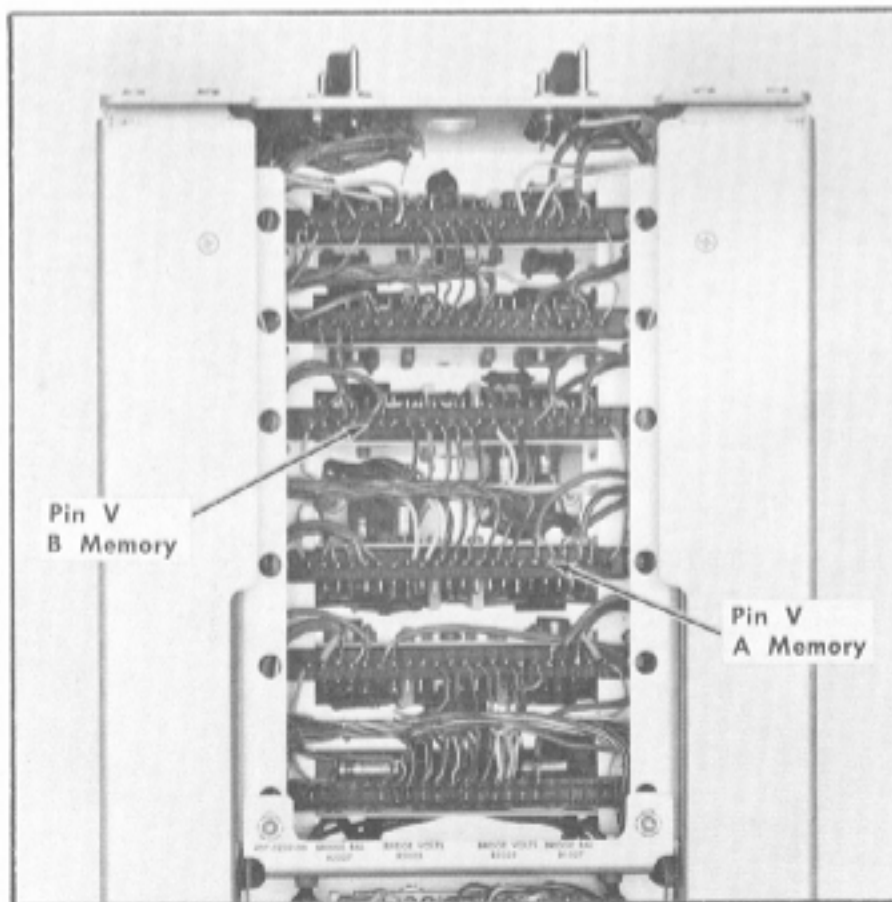

Fig. 6-10. Bottom view of 4S2A showing location of plug-in connectors.
- Connect the 10X Probe tip to pin V of the A Channel Memory connector. Turn the Type 4S2A on its left side to reach this connection. See Fig. 6-10.